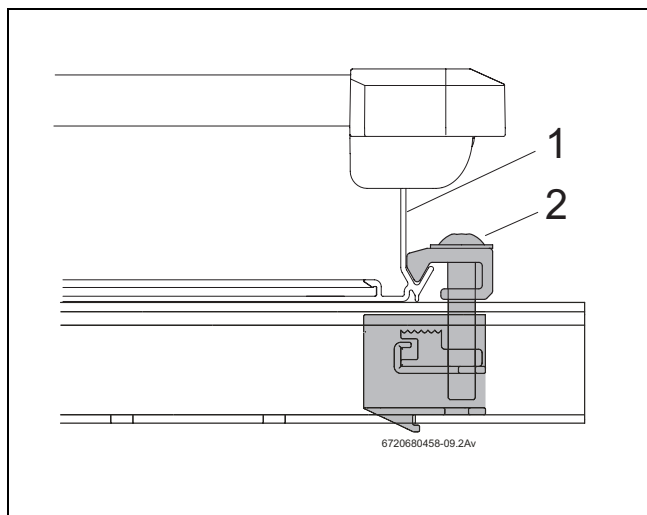

Fig. 39 Threaded side collector tensioner
- Push (Fig. 39, [1]) the collector carefully up against the side collector tensioner and align horizontally.
- Tighten the side collector tensioner with the size 5 spanner (Fig. 39, [2]).
The tensioner device (Fig. 39, [2]) now secures the lower corner of the collector.